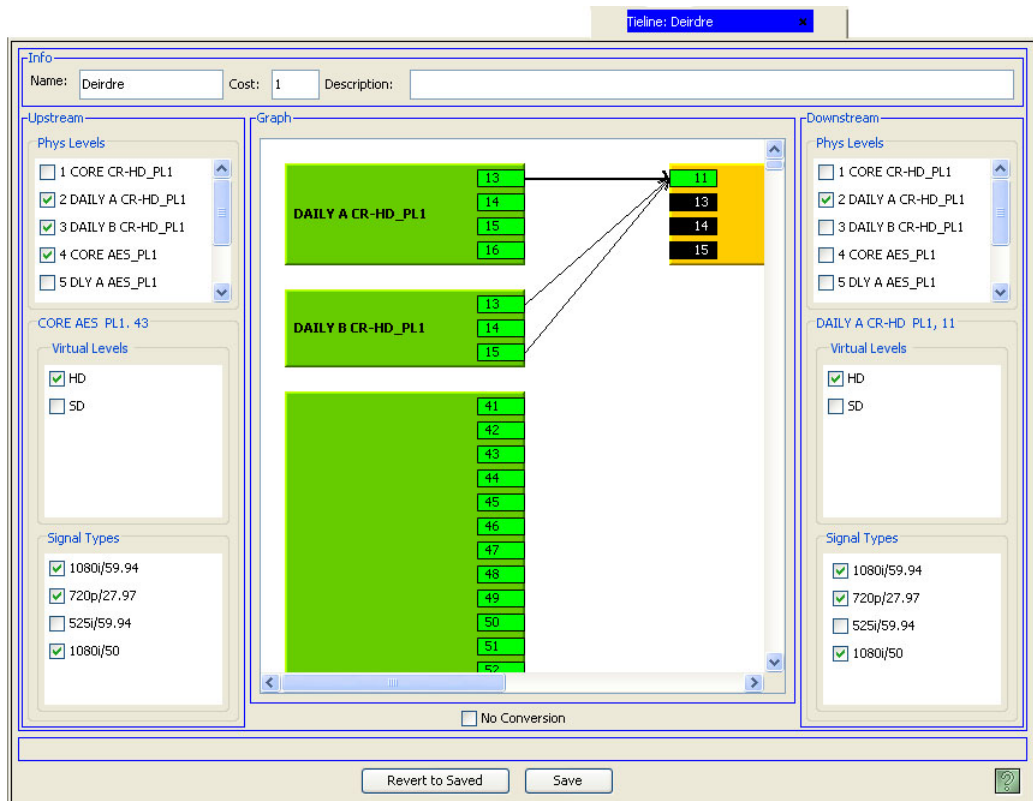

Figure 16-18. Tieline Details Page - New Tieline
- 4 In the 'Graph' section, click on an arrow. Corresponding 'Virtual Levels' and 'Signal Types' display in the related sections, as shown in Figure 16-18. Only one arrow may be selected at any one time.